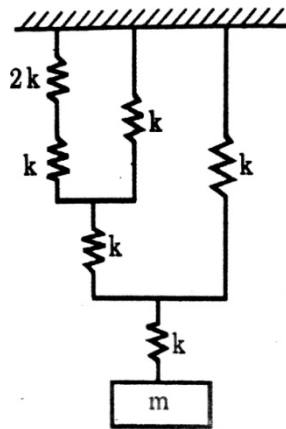

Figure 5.2
3. Find the natural frequency of the system shown in Figure 5.2. Here $k = 5 \times 10^3\text{ N/m}$, $m = 40\text{kg}$